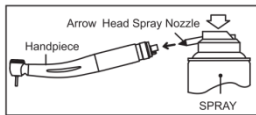

Fig. 17
1) ① Direct-Connect Type: Remove the handpiece from the hose.
② Quick Coupling Type: Disconnect the handle from the quick connector.
3) Mount the Tip Nozzle into the spray can port (Fig.17).